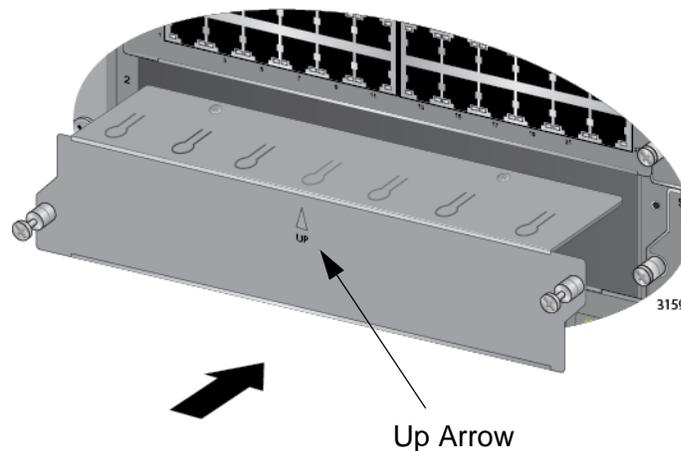

Figure 78. Installing a Blank Slot Cover
1. Position the blank slot cover over the unused slot, as shown in Figure 78. The up arrow on the panel must be pointing up.